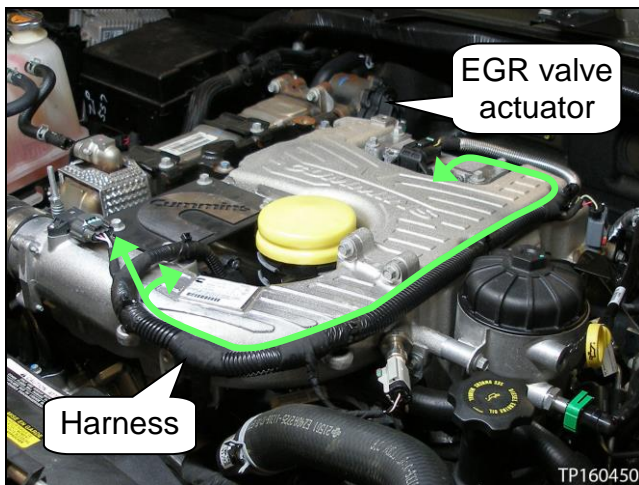

Figure 103
44. Route the engine control harness, and then connect and lock all the related connectors (see Figure 103).